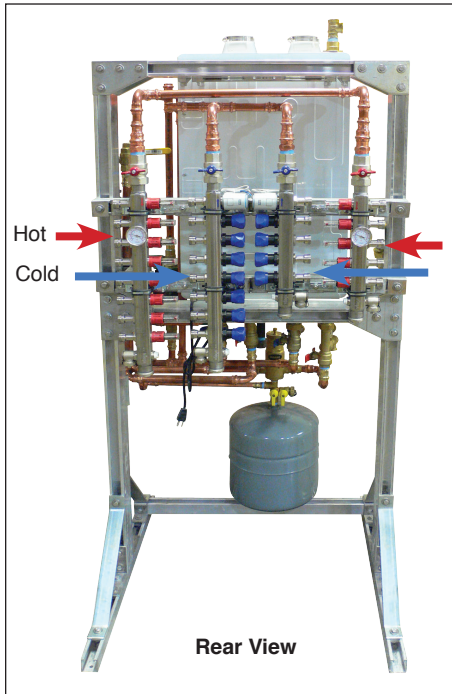
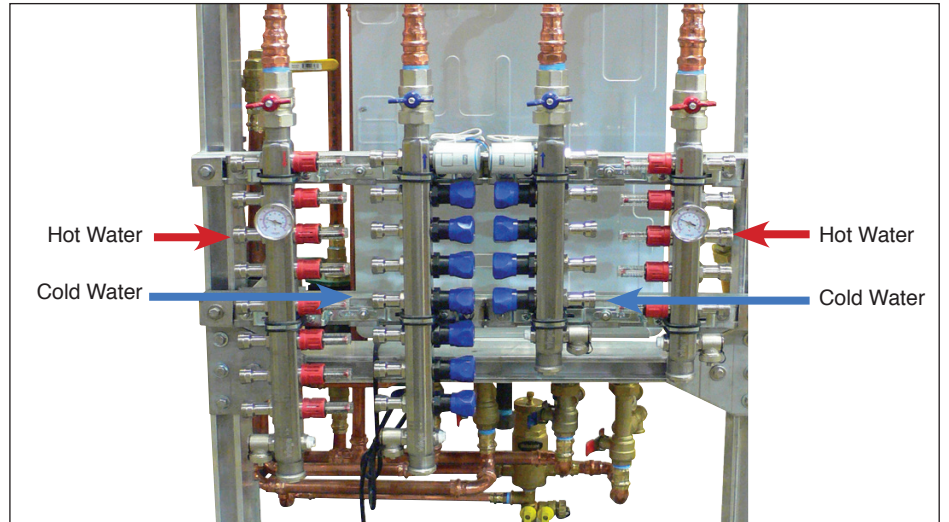

Figure 3
Figure 4
STEP 5: Connect the radiant pex tubing to the manifold located on the back of the unit. The lines carrying the heated water to the system get connected to the **RED** connection points and the cool water returning to the system, gets connected to the **BLUE** connection points (see Figure 3 and Figure 4 below)